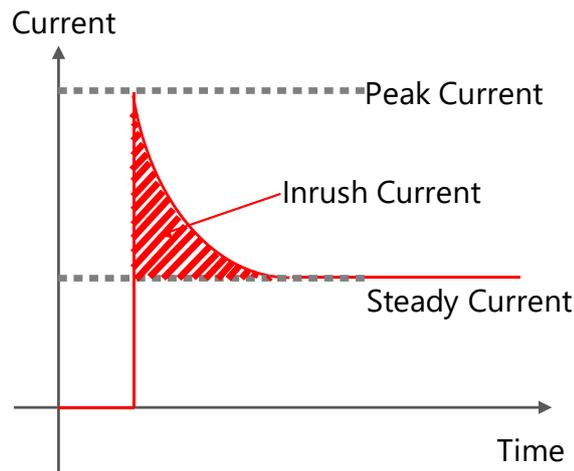

Figure 24. Example of an inrush current waveform
- When a test voltage is applied to the PCB during the lighting inspection, a large current exceeding the maximum rating temporarily flows through the LED due to the inrush current. (See Figure 24)